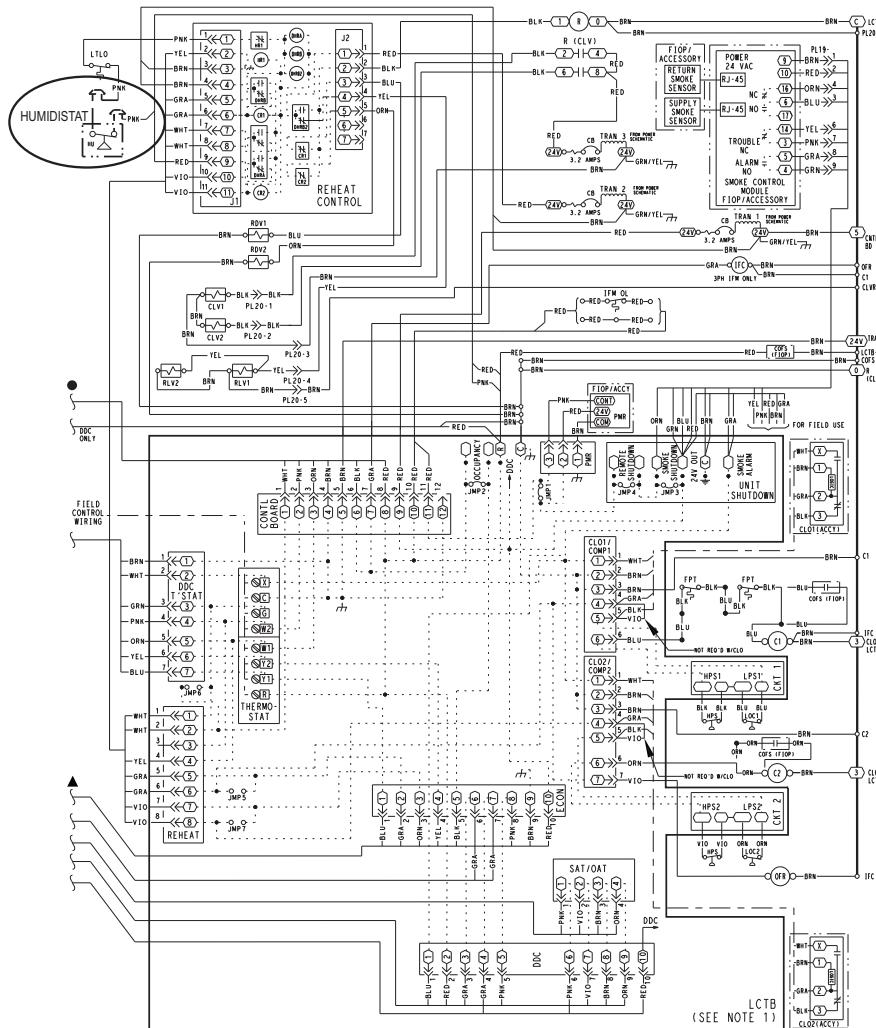

Fig. 32 - Typical Perfect Humidity™ Dehumidification System Humidistat Wiring
3. Use wire nuts to connect humidistat cable to two PINK leads in the low-voltage wiring as shown in Fig. 32. Refer to the instructions for the field-supplied humidistat for more information.